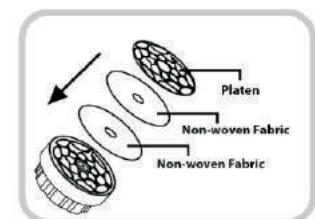

Fig.11
4. Assemble the Resin Filter by first gently pulling out the Platen from the top of the filter. Place the two (2) Non-woven Fabric (white) on top. Secure both by placing the platen on top. (Fig. 11).